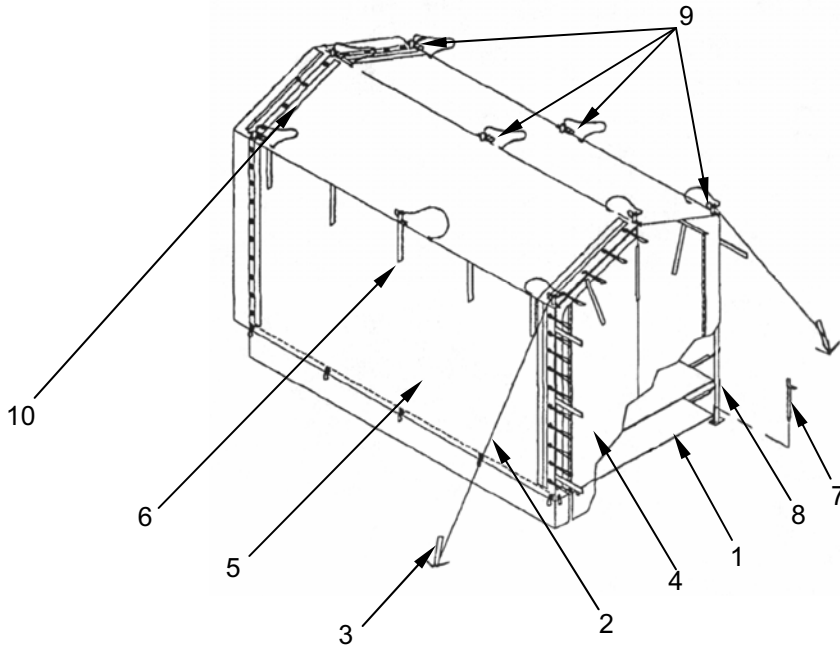

Figure 2. Striking Procedure for Vestibule.
2. Remove single ply floors (**Figure 2, Item 1**) in vestibule.
3. Release tension on vestibule guy lines (**Figure 2, Item 2**) and remove stakes (**Figure 2, Item 3**).
4. Unlace vestibule door (**Figure 2, Item 4**) sides from vestibule (**Figure 2, Item 5**).
5. Untie vestibule tie tapes (**Figure 2, Item 6**).
6. Remove steel pins (**Figure 2, Item 7**) in vestibule footstops and frame base plates.
7. Collapse vestibule and position frames (**Figure 2, Item 8**) against endwall.
8. Remove hitch pins (**Figure 2, Item 9**) and complete door removal.
10. Open weather seal flap (**Figure 2, Item 10**), unlace vestibule, remove and fold.